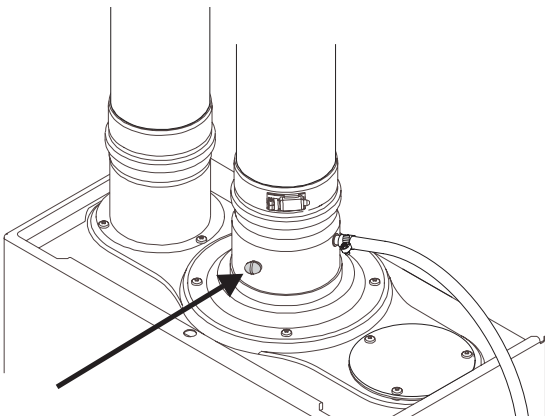

Fig. 40 Measuring port
- ▶ Turn ON/OFF switch to the OFF (O) position.
- ▶ Remove brass flat head screw on the exhaust collar as seen in Fig. 40.